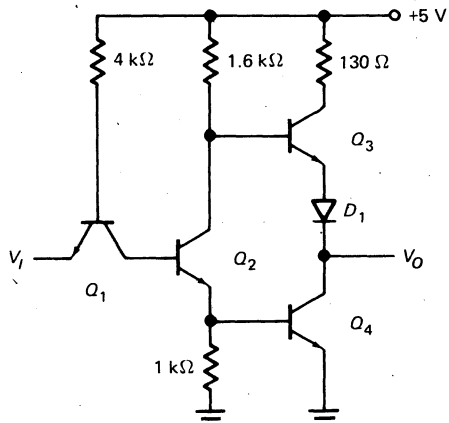

Fig. 4-21
- 4-1. In Fig. 4-21 a grounded input means that almost the entire supply voltage appears across the $4\text{-k}\Omega$ resistor. Allowing 0.7 V for the emitter-base voltage of Q_1 , how much input emitter current is there with a grounded input? The supply voltage can be as high as 5.25 V and the $4\text{-k}\Omega$ resistance can be as low as $3.28\text{ k}\Omega$. What is the input emitter current in this case?